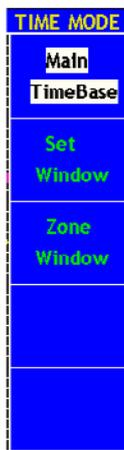

Figure 34. Time Mode.
- 3 **HORIZONTAL MENU** button: Press this button to active TIME MODE shown as below with description of each function (see Fig. 34).